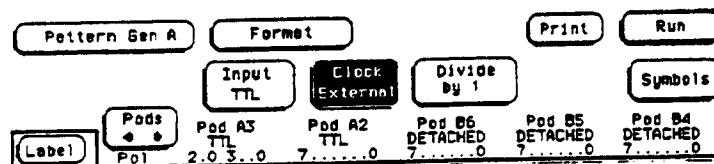

Figure 3-17. Clock Field
- f. Touch **Clock** field and set to External as shown in figure 3-17.